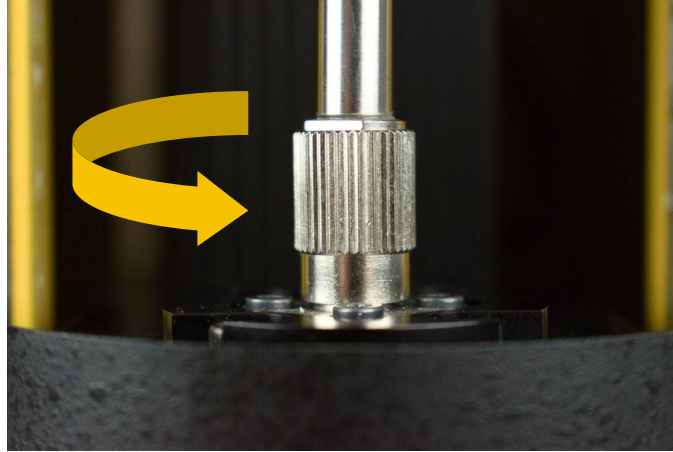
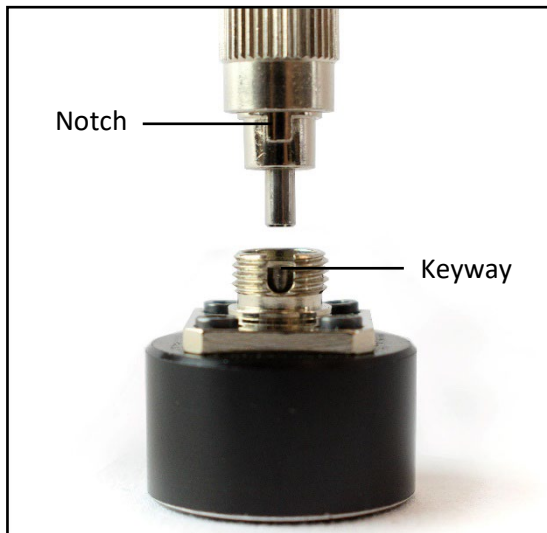

Figure 34. Disconnect Delivery Fiber from Translation Stage.
Figure 35. Connect Delivery Fiber to Transmission Tool.
3. Follow the prompt by removing the Delivery Fiber from the Translation Stage by turning the FC connector end of the Delivery Fiber counter-clockwise (see Figure 34). Attach the FC end of the Delivery Fiber to the Transmission Tool and place both connected devices on top of the SoloVPE Detector Window. Be sure to align the notch on the Delivery Fiber to the keyway on the Transmission Tool (refer to Figures 35 and 36).